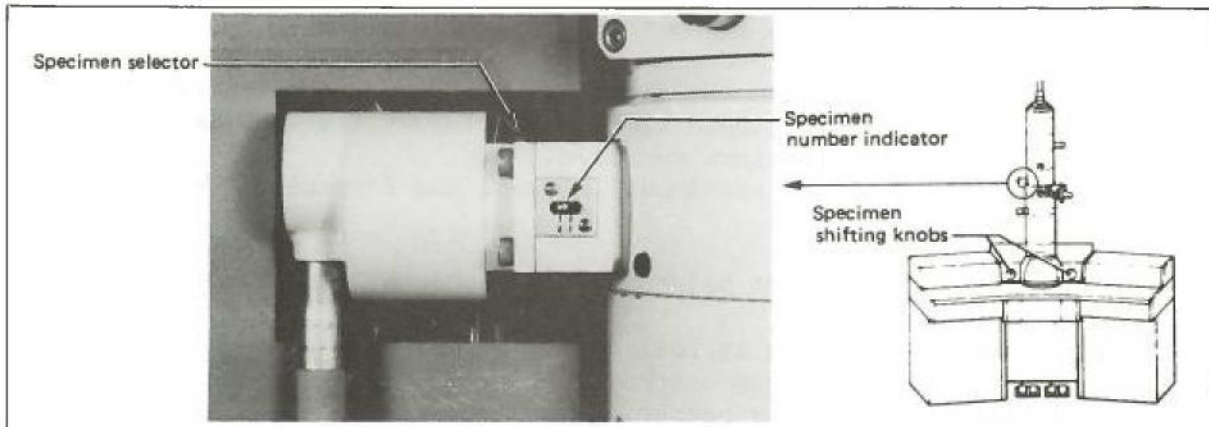

Fig. 4.7 Specimen selecting device
6. Set the specimen number indicator (Fig. 4.7) to the desired number with the specimen selector.